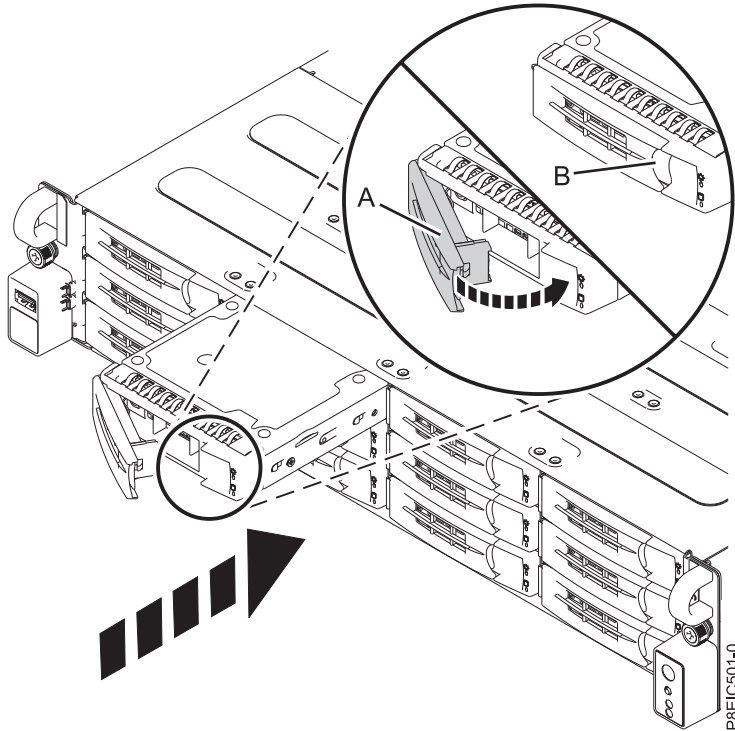

Figure 12. Locking the drive tray handle
6. Hold the drive tray by the bottom as you position the drive tray. Slide the drive tray all the way into the system. Push the drive tray in until the drive tray handle (A) starts to close, then push the handle in until it locks, as shown in Figure 12 on page 14.